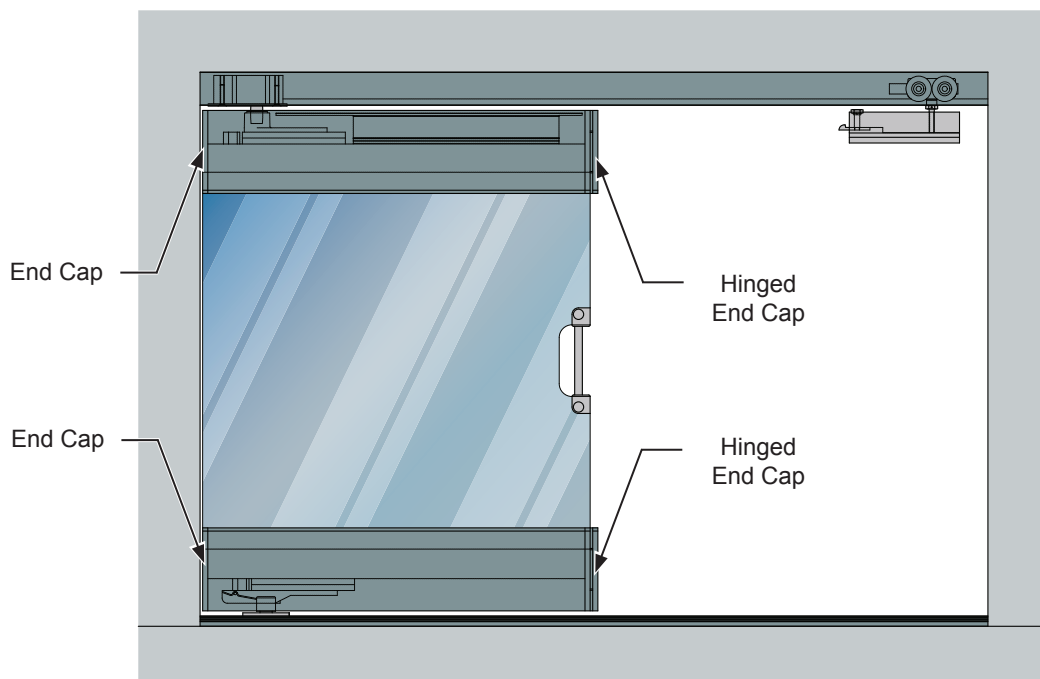

Fig. 11
4. When the door leaf is aligned correctly, re-install the End Caps. **(Fig. 11)**